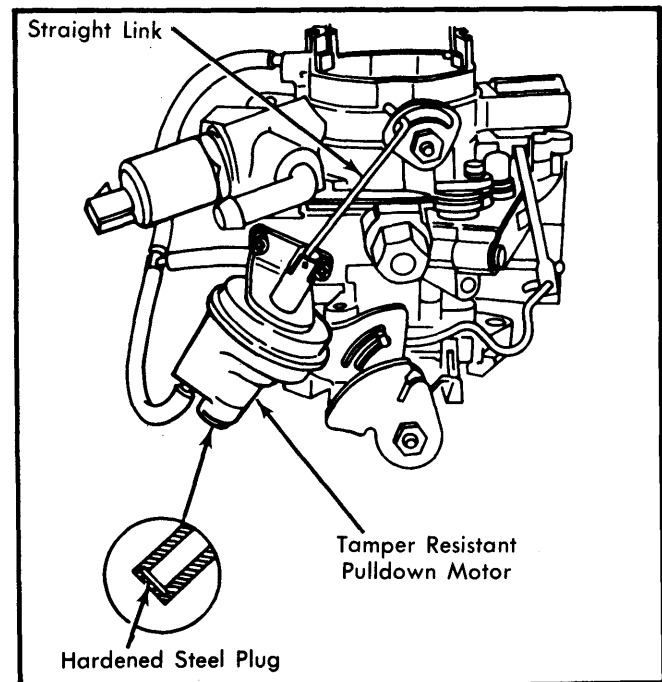

Fig. 5 Adjusting Choke Vacuum Kick (Choke Pull-down)
1) On Chrysler Corp. models, open throttle then close choke. Now close throttle to trap fast idle cam at closed choke position. See Fig. 5.